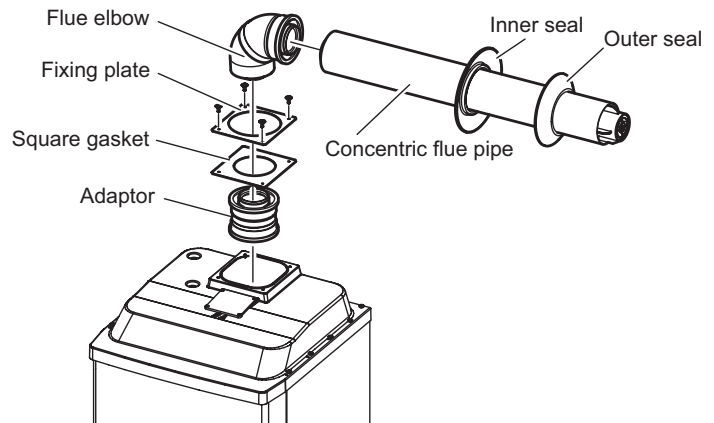

Fig. 19
**Horizontal through the wall concentric flue kit - see Figs. 19 and 20.**
Fig. 19 shows the flue kit parts that need to be fitted to the boiler to ensure the room sealed concentric flue can be used.